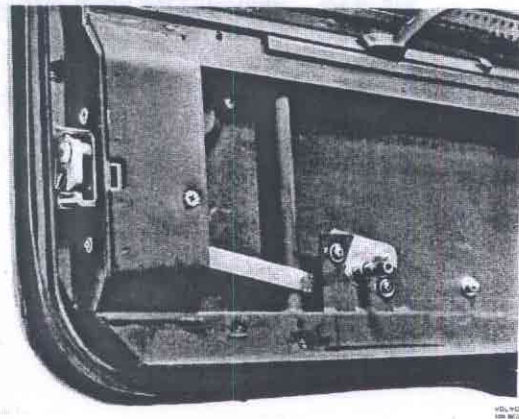

Fig. 83-3. Door lock (left-hand)
2. Set the lock to the locked position, see Fig. 83-3.